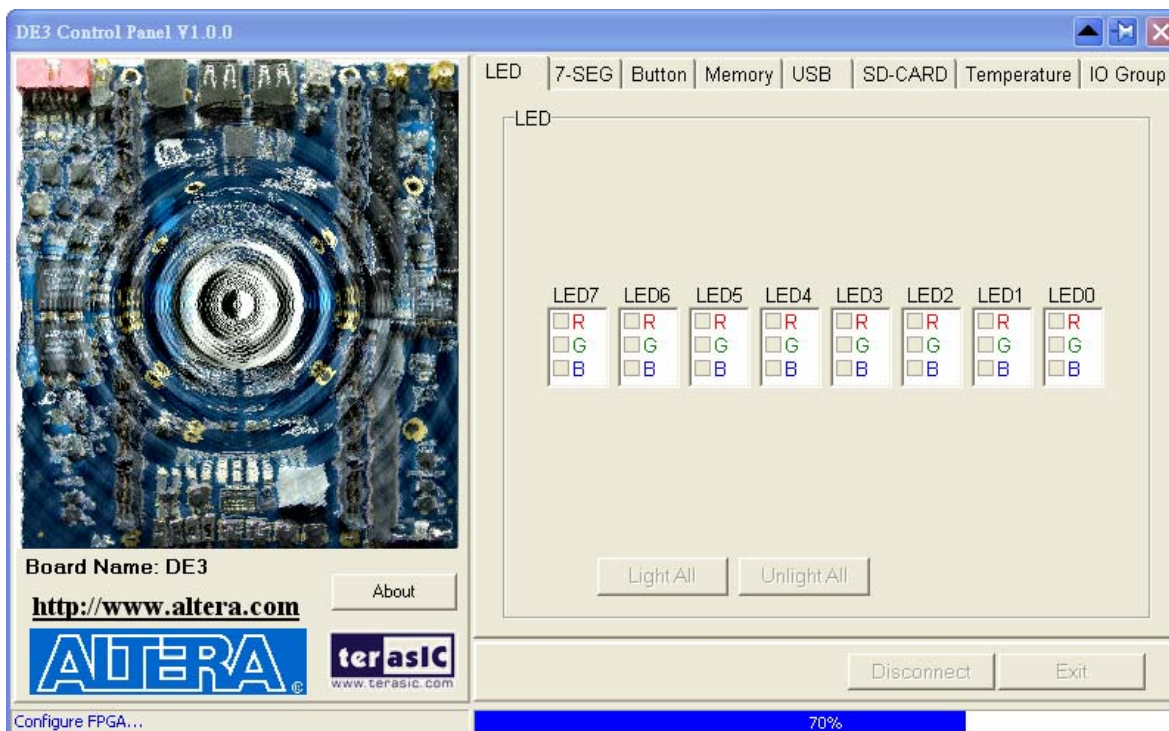

Figure 3.2. Download .sof and .elf files to the DE3 board
3. Start the executable *DE3_control_panel.exe* on the host computer. Figure 3.2 will appear and the Control Panel starts to auto-detect the FPGA and download the *.sof* and *.elf* files.